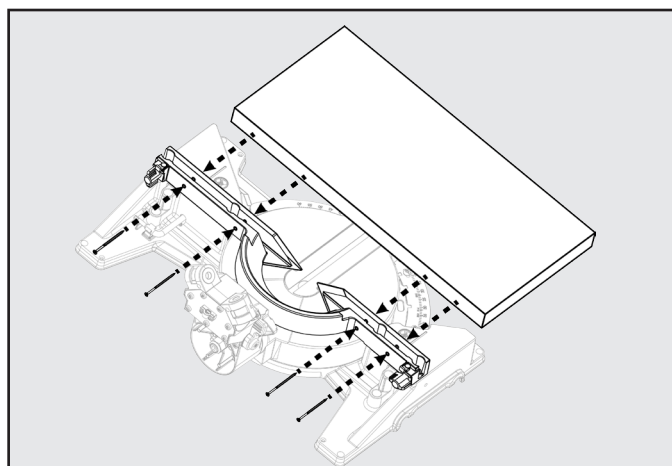
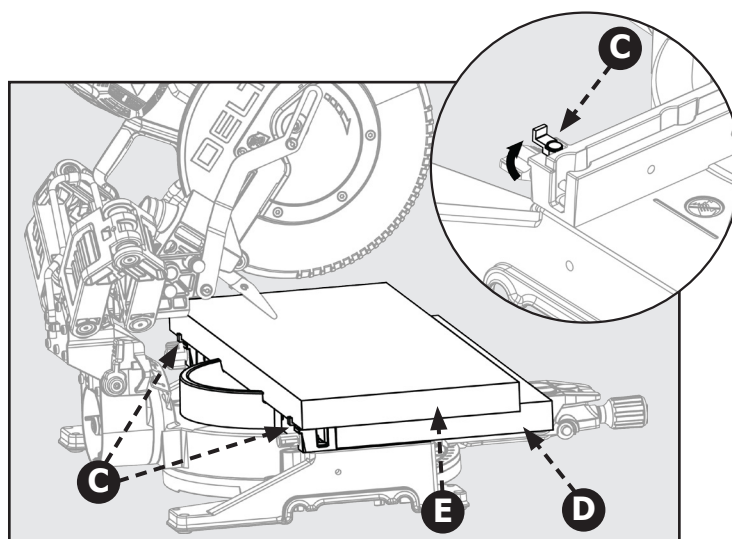

Figure 27
Figure 28
2. Flip the support tabs (C) into position. Tabs (C) are on both the left and right sides of the lower (fixed) fence. These will function as your workpiece backstop. See Figure 28.
3. You will need to add an auxiliary table board (D) to support your large capacity workpiece (E). Place a 2" x 14" auxiliary table board (D) onto the saw table and against the lower (fixed) section of the saw fence. Make sure the board is securely positioned against the lower (fixed) fence.
**NOTE:** Use wood screws to secure the auxiliary table board (D) to the lower (fixed) fence. See Figure 27.
4. Use the support tabs (C) to secure your workpiece before making any cuts